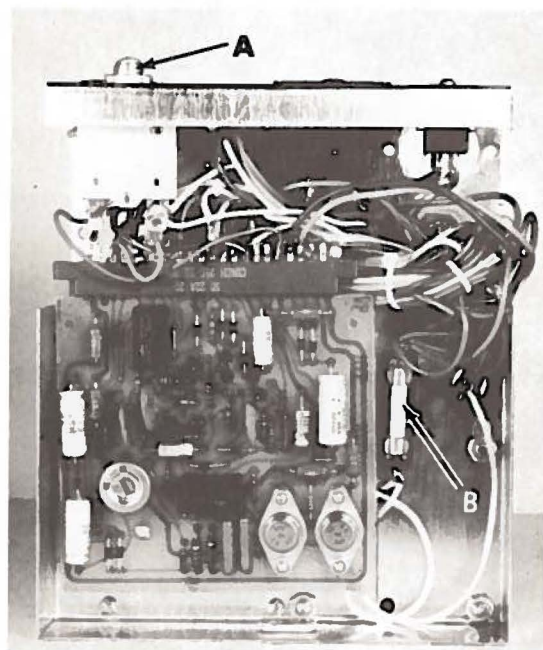
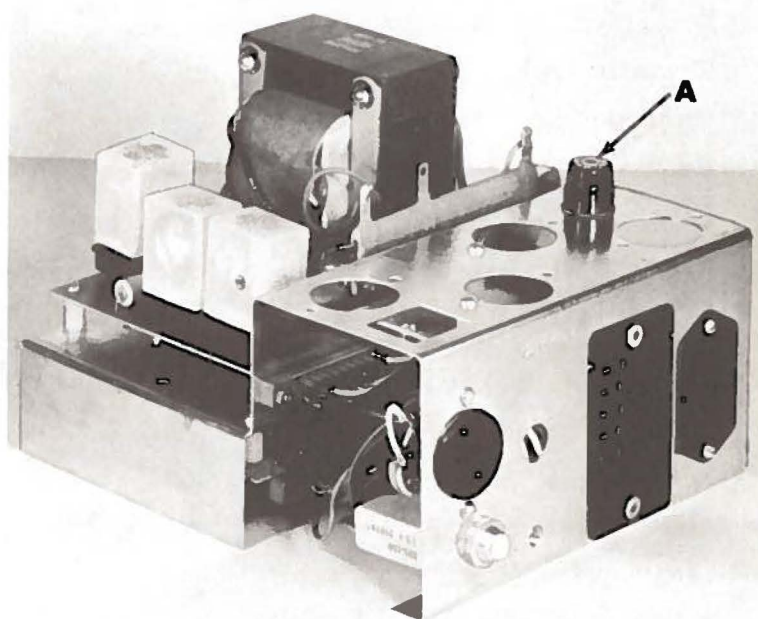

Fig. 41
Fig. 42
The power pack incorporates a safety feature consisting of two (2) fuses and a circuitbreaker. The 1 1/2 AMP circuit breaker (A, Fig. 41) located in the front panel fuses the auxiliary motor as well as the positioner circuit components. The 1 1/4 AMP slow blow fuse (A, Fig. 42) located on top of the chassis fuses the AC input for the primary winding of the transformer. The 5 AMP straight blow fuse (B, Fig. 41) located under the chassis, for the thread wiper solenoid (30 VDC), cutter solenoid and relay coil control circuit (24 VDC).